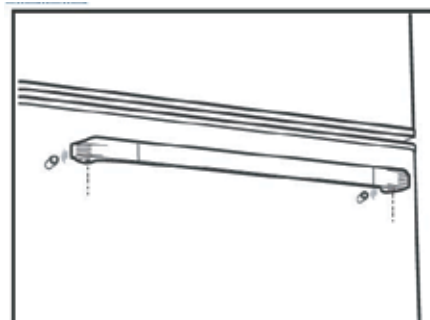

Fig. 6
- 4) Place provided fridge handle on to the screw caps on fridge door (Fig. 6) making sure that the smaller holes on the handle face downwards, and that the screw goes up into the center hole at each end of the handle. Tighten the screws using the provided 2.5 mm Allen key (Fig. 7)